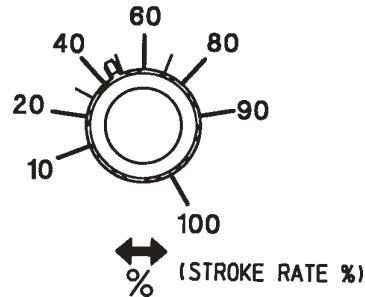

Figure 3.2
3.4.1 Stroke Frequency Adjustment (See Figure 3.2)